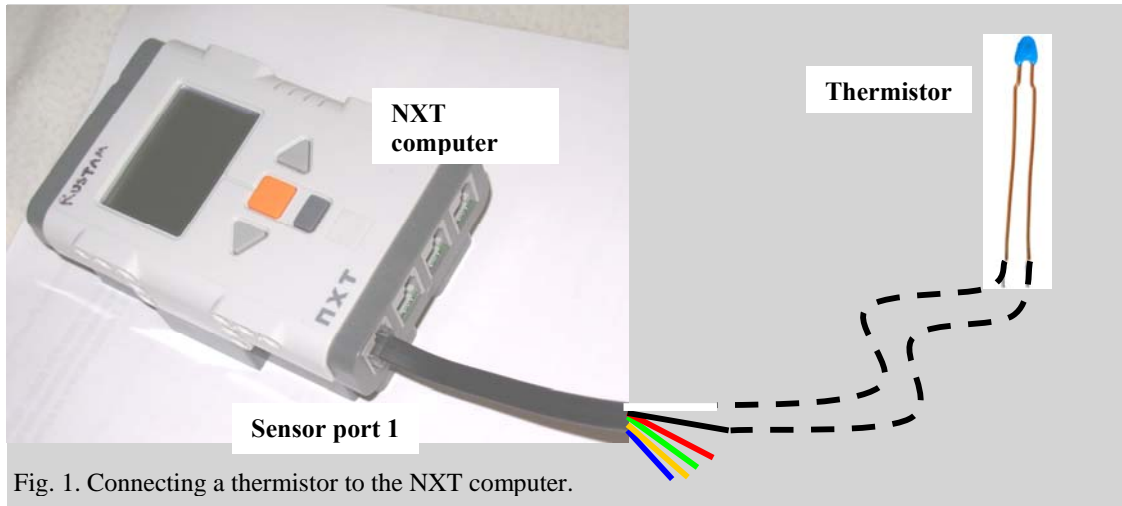

Fig. 1. Connecting a thermistor to the NXT computer.
- 3) *Once you have completed the soldering, you can then plug the connector cable into sensor port 1 on the NXT (see fig. 1). **Do not solder the wire while it is still connected to the NXT – the internal circuits could be damaged by heat.***